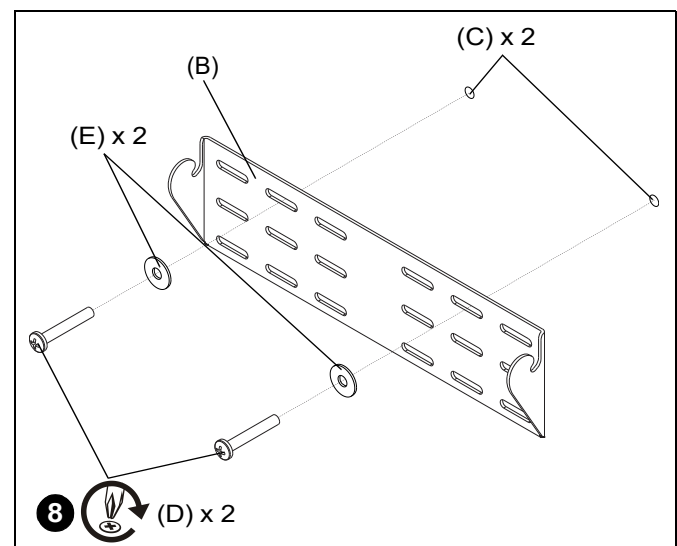

Figure 10
8. Use two #10-24 x 1 1/4" Phillips pan machine screws (D) and two #10 washers (E) to secure wall bracket (B) to anchors (C). (See Figure 10)